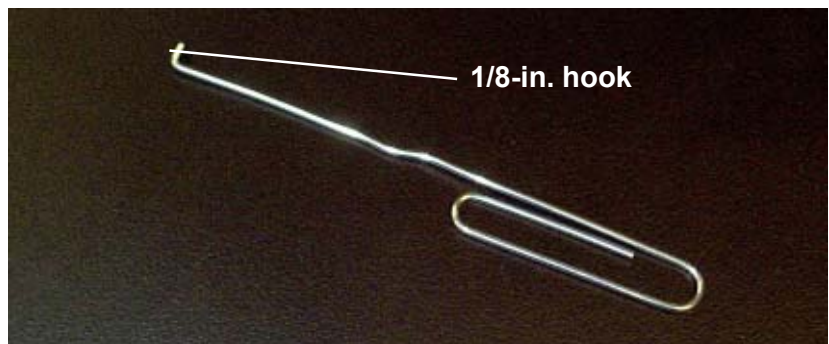

Figure 49. Paper Clip Tool for Removing Brake
3. Unbend the outer tine of a paper clip. (The 1-3/4-in. long clips work just fine!) With a needle-nose pliers, bend the end of the paper clip to form about a 1/8-in. hook (Figure 49).